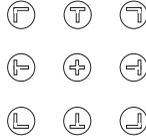

Figure 24: Preset Position Control Keys
- Using the preset position control keys² (see Figure 24) on the infra-red